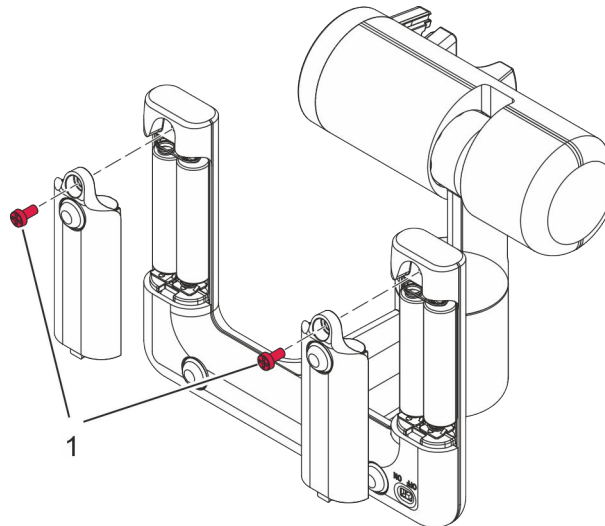

Fig. 21: Replacing rechargeable batteries
1. ➤ Unscrew the screws (Fig. 21/1) using a screwdriver and open the battery compartments.